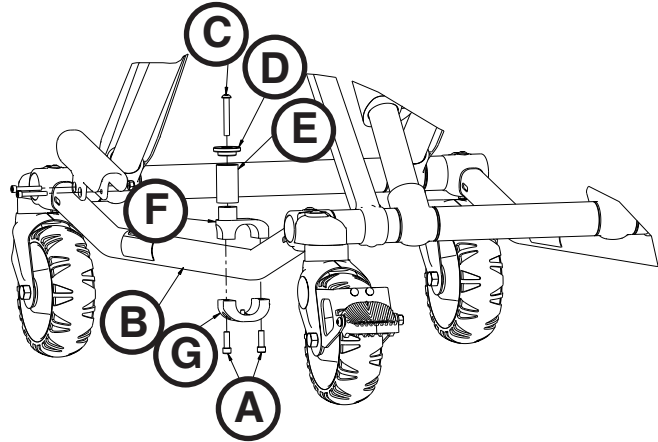

Figure 72
3. Using a T30 Torx driver, remove the two socket head cap screws (A) that secure the current cot retaining post to the base tube (B) (Figure 72). Discard the screws and cot retaining post.
4. Insert the button head cap screw (C) through the retaining post cap (D) and post tube (E), and then into the top pin bracket (F) (Figure 72).
5. Using a 5/32" hex wrench, tighten the button head cap screw (C) completely to secure the retaining post cap (D) and post tube (E) to the top pin bracket (F) (Figure 72). Using a torque wrench, torque the screw to 100-140 in-lb.
6. Assemble the cot retaining post across the base tube. Align the holes of the brackets and insert two socket head cap screws (A) into the threaded holes of the bottom pin bracket (G) (Figure 72).